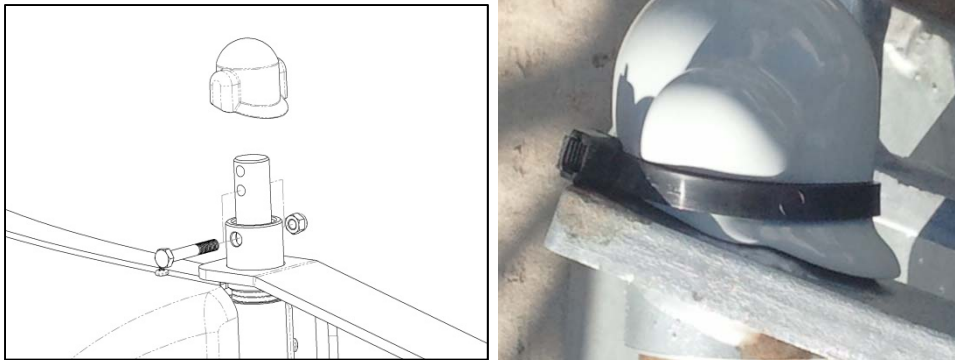

Figure 9: Tail Pivot Pin Cap
17. Place the tail pivot pin cap on the pivot pin and use a zip tie to secure it in place, as shown in Figure 9.